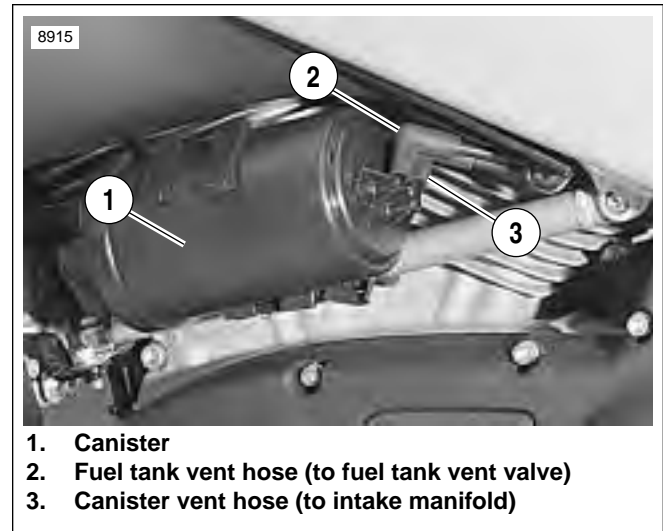

Figure 4-110. Carbon Canister Installation.
1. See Figure 4-110. Label and disconnect the fuel tank vent hose (2) and canister vent hose (3) from the canister.
2. See Figure 4-110. Attach fuel tank vent hose (2) to canister if disconnected.
2. See Figure 4-110. Connect two hoses to the canister. Make sure to push hoses all the way on to carbon canister fittings.